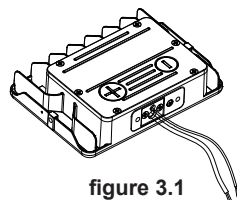

figure 3.1
Step 1: Take the lamp out of package. (figure 3.1)